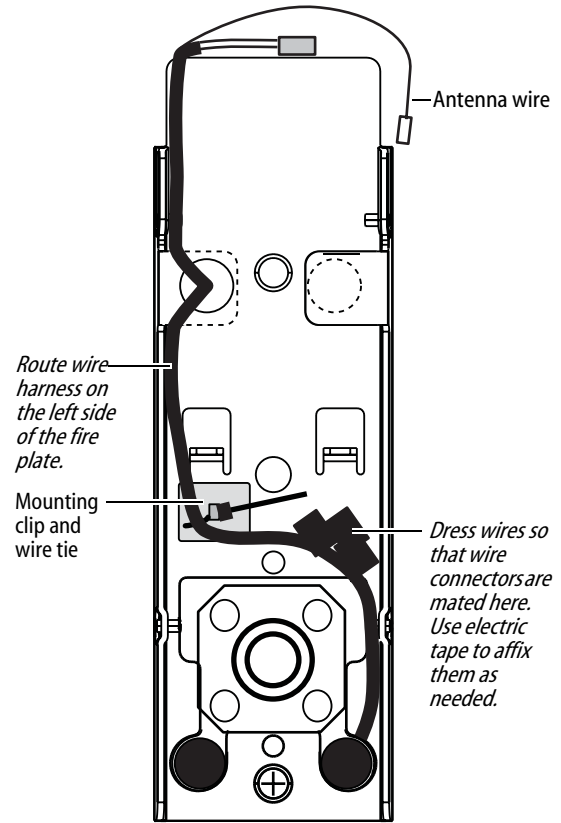

Figure 12 Routing the wires
- Insert the plastic wire tie through the mounting clip and secure the wires as shown in Figure 12.